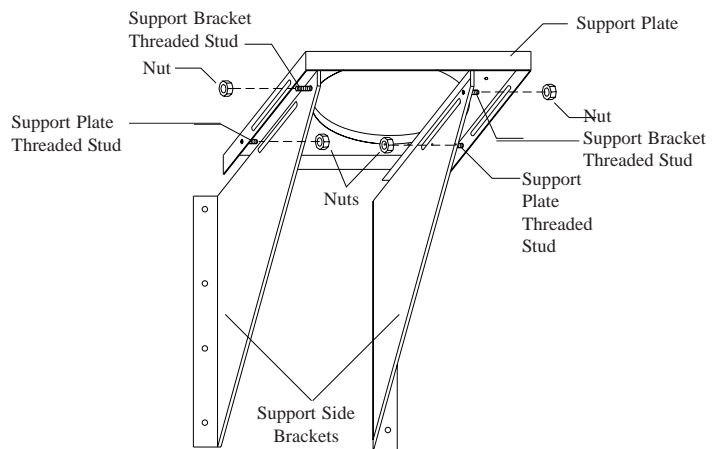

Figure 10- Underside view of location of threaded studs and nuts
The Adjustable Wall Support will allow for an adjustment of 50.8mm to 152.4mm from a vertical wall. Threaded studs are factory installed on both side brackets and the support plate for fast and easy assembly (see Figure 10 & 11).
3. Assemble the side Brackets (point of triangle facing down) to the Support Plate (flange up) by inserting the threaded studs into the oblong slots. Install the supplied nuts on the threaded studs (see Figures 10 & 11).
6. Attach the two (2) retainer clips to the bottom of the support plate and fasten with the supplied nuts and bolts using the two (2) holes on top of the support plate (see Figures 10 & 11).